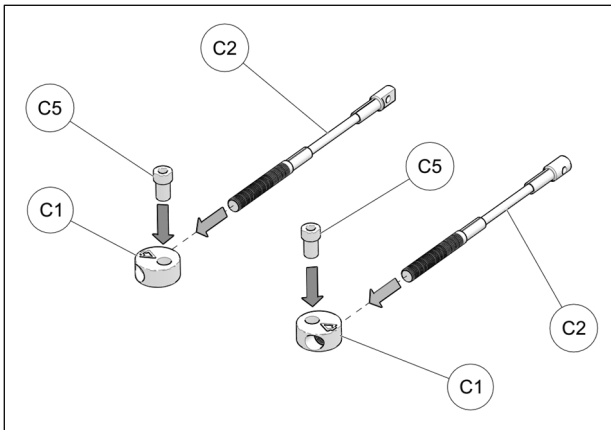

Fig. 22
10. Assemble steering limiter cables (**C2**), aluminum disks (**C1**) and step spacers (**C5**) together as shown on Fig. 22